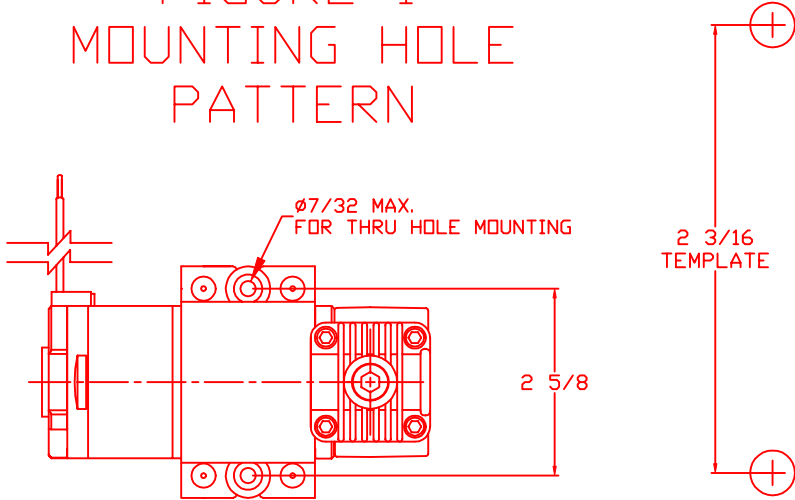

FIGURE 2
1. As shown in figure 2, slide the (2) grommets (item#3) into slots. Next push the (2) brass eyelets (item#2) into the grommets. Pull the (4) bumpers (item#5) through the (4) round holes on the bracket.
4. To mount compressor, insert 10-32 bolt (item#1) through the brass eyelet and through the  $\frac{7}{32}$  in. hole. Secure with the 10-32 nut (item#4) as shown in figure 2. **Do not overtighten mounting bolts.**